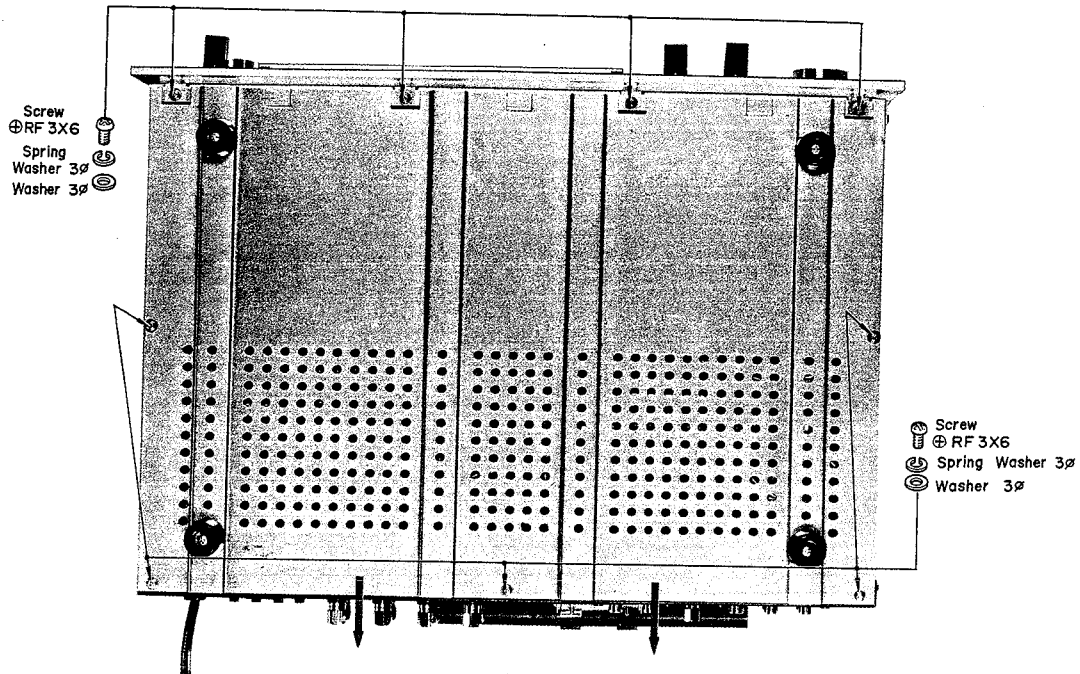

Fig. 2-1
- (b) Remove the five Phillips-head screws at the bottom of the receiver and pull the bottom plate towards the rear of the tuner. See Fig. 2-1.
- (d) Turn the receiver over and remove the four Phillips-heads screws (+ RF 3φx6) at the front-bottom edge of the chassis. See Fig. 2-1. This frees the front panel.
- (a) Remove the cover and bottom plate. See Fig. 2-1.